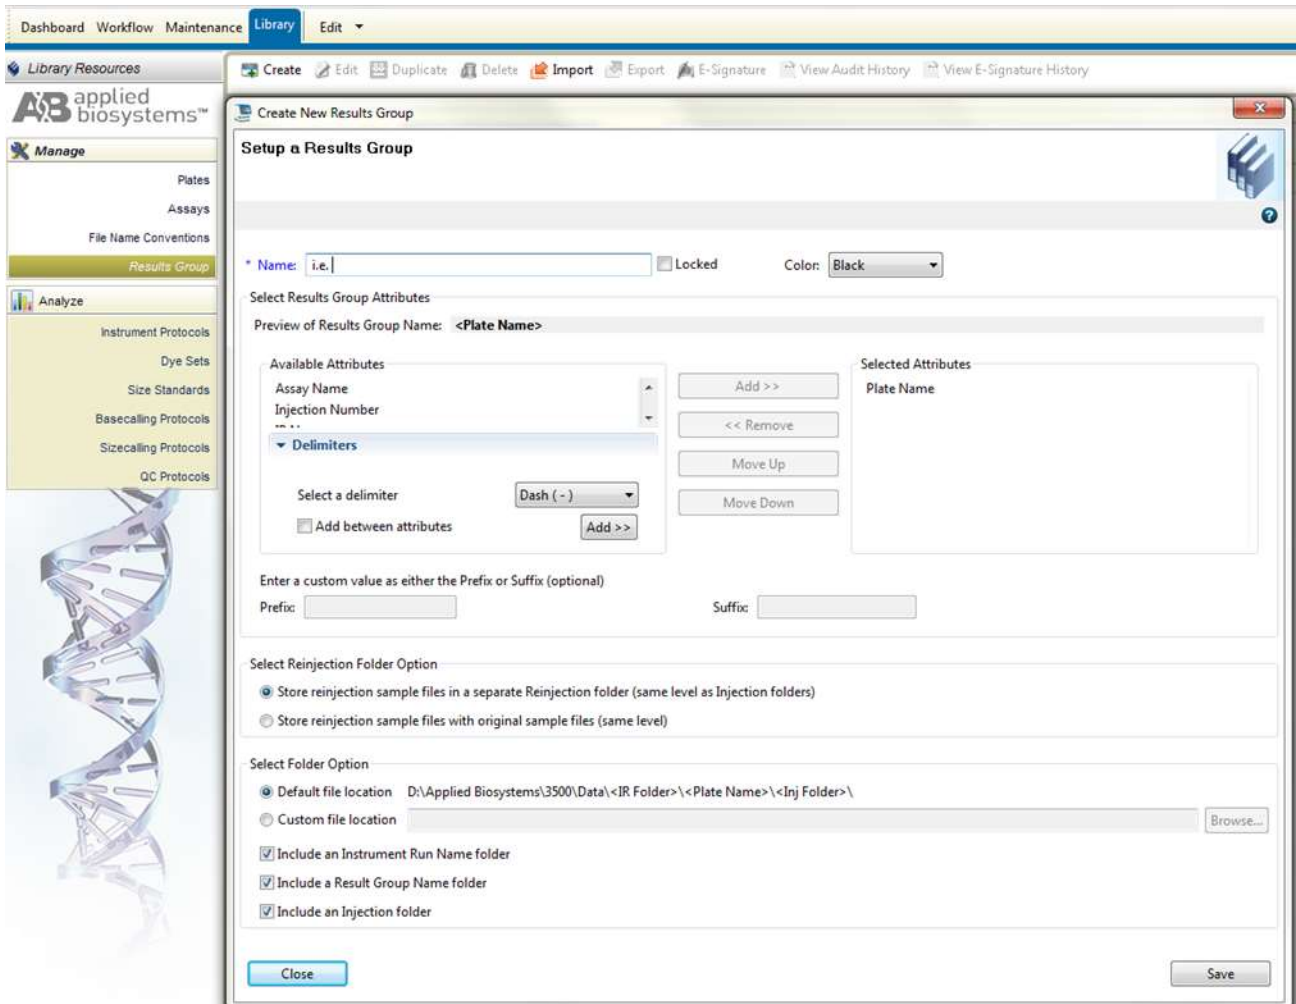

Figure 10. Screenshot for the “Create New Result Group” window on Applied Biosystems 3500 Data Collection software
- c) Select “*Create*” (Figure 10)